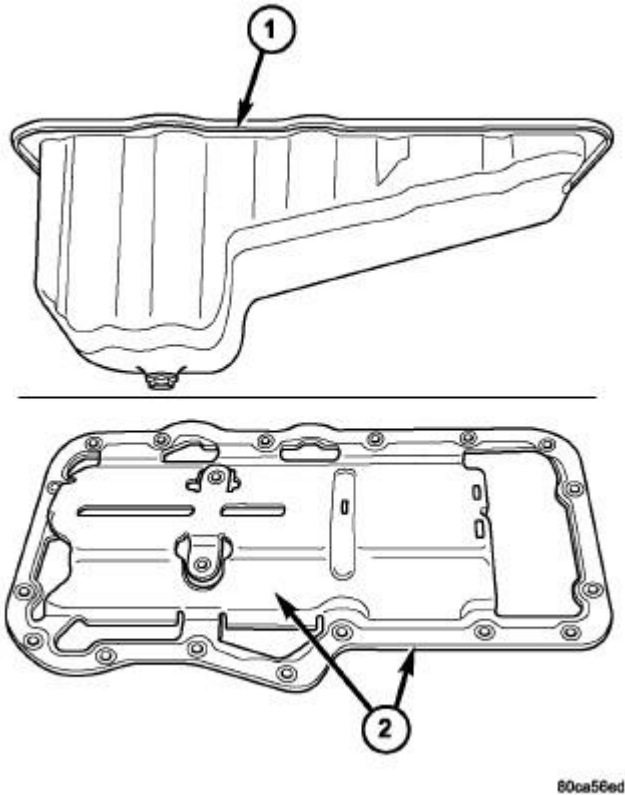

Fig. 126: Oil Pan & Gasket
The engine oil pan (1) is made of laminated steel and has a single plane sealing surface. Refer to **Fig. 126**. The